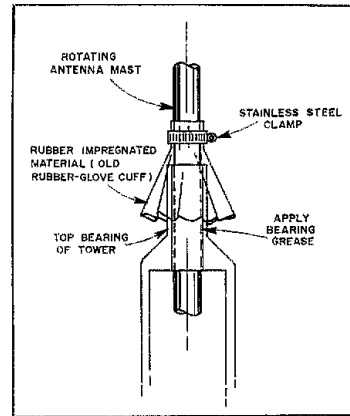

Fig. 4 — Illustration of the protective cover used by WB2YKX to weatherproof the thrust bushing on his tower.
□ I use a piece of rubber-impregnated material, such as the cuff from an old rubber glove, to make a weatherproof cover for the thrust bushing on my tower. Fig. 4 shows this technique. The cuff is secured with a stainless-steel hose clamp, just above the top of the bushing. Be sure to apply a good coat of bearing grease between the mast pipe and the bushing. — *Ed Lynch, WB2YKX, Latham, New York*